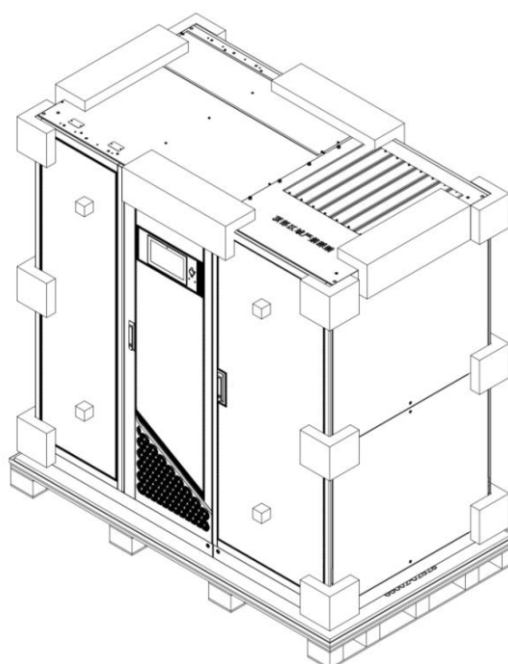

Figure 3-49 Open the wooden box
Step 3: Pry open the buckles to open the wooden box, as shown in Figure 3-49;